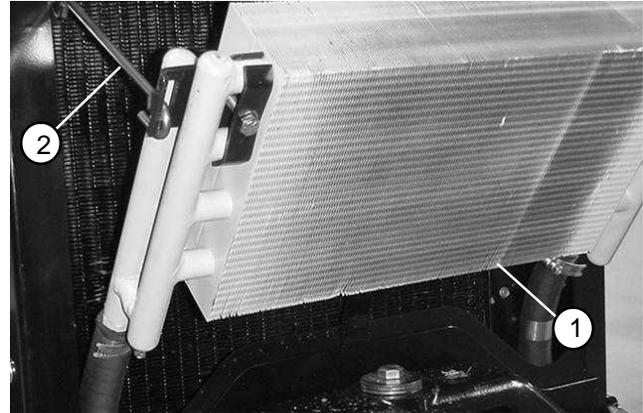

Figure 48
Traction Unit Serial No. Prior to 314000001, remove hydraulic fluid cooler (Fig. 48 and 49).
1. Traction Unit Serial No. Prior to 314000001, install hydraulic fluid cooler (Fig. 48 and 49).